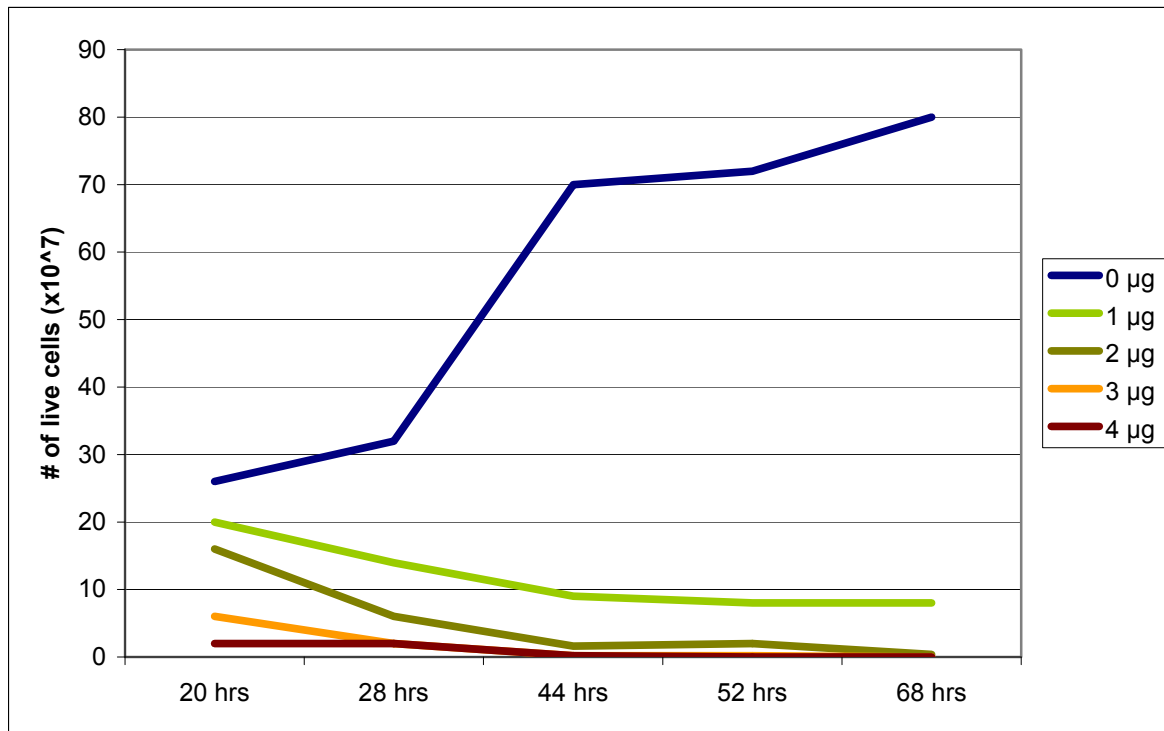

Figure 5. Puromycin kill curve depicting cell death in relation to increasing doses of puromycin over time.
7. The minimum antibiotic concentration to use is the lowest concentration that kills 100% of the cells in 1 - 4 days from the start of antibiotic selection (see Figure 5).